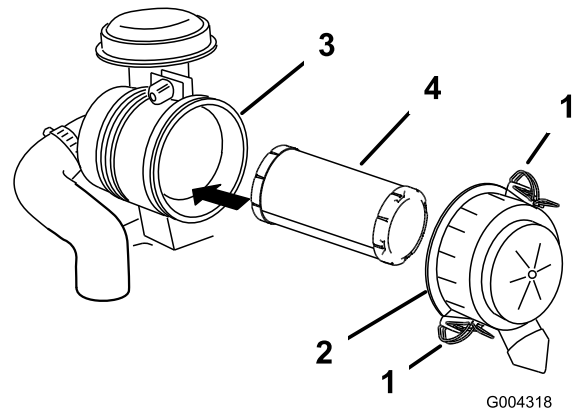

Figure 27
3. Release the latches on the air cleaner and pull the air cleaner cover off of the air cleaner body (Figure 27).
5. Gently slide the air filter out of the air cleaner body (Figure 27). Avoid knocking the filter into the side of the body.
2. Carefully slide the air filter into the body (Figure 27).
3. Install the air cleaner cover with the side indicated as UP facing up and secure the latches (Figure 27).